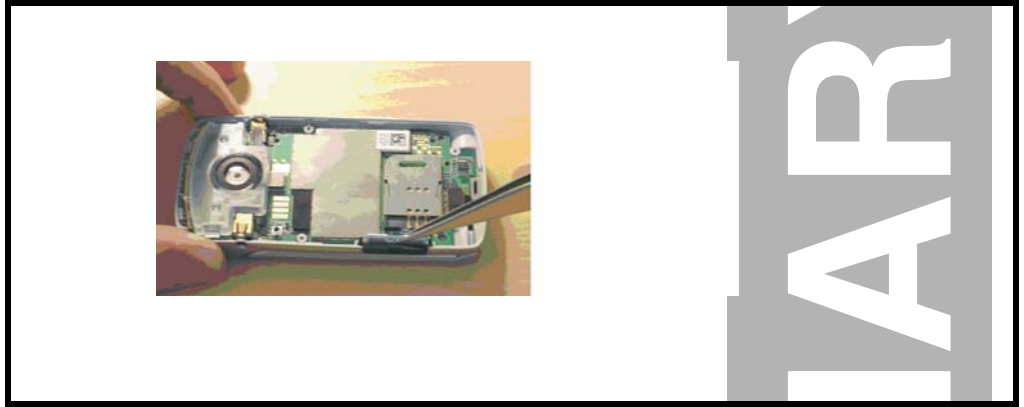

Figure 11. Removing Volume Key PCBA
2. Remove the volume key PCBA from the Housing C with a tweezer as shown in Figure 11.